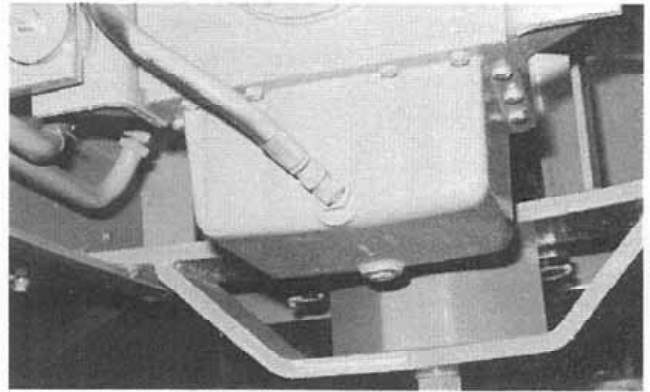

Figure 12:
13. Replace the oil suction hose at the front of the transfer case oil reservoir. After tightening, be sure it is not twisted or otherwise reduces the flow of oil (Fig. 12).